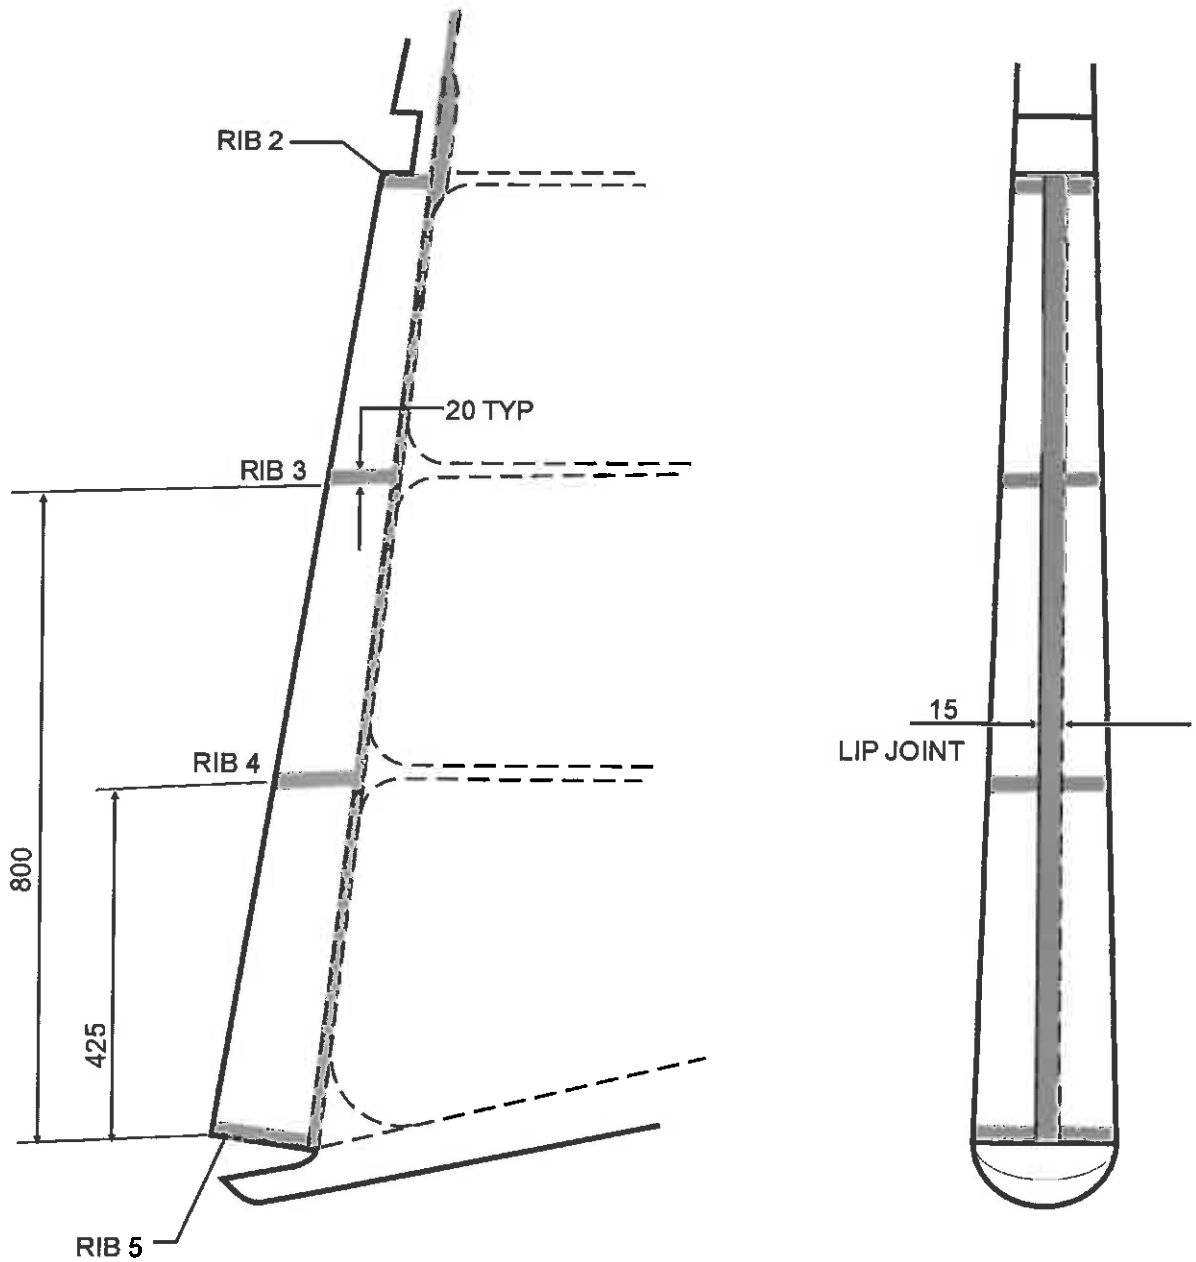

Figure 3 Rudder 'D' Box Structure
Issue 2: Introduces a tap test to rudder 'D' box area plus Figure 3.
6. Check rudder 'D' box structure for any de-bonds iaw T67 GRP Repair Manual. Perform 'tap' test over areas indicated, refer Figure 3.